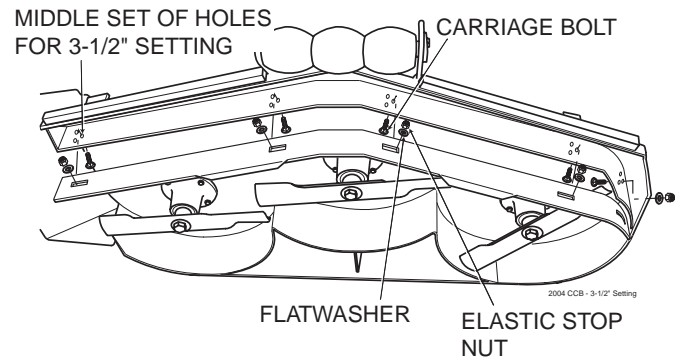

Figure 6-11. 3-1/2" Custom-Cut Baffle Position
- B. 3-1/2" Position - baffle is installed using the middle set of holes on the front baffle welded inside the cutter deck. (See Figure 6.11, Page 29). For general purpose cutting, place the Custom Cut Baffle in the 3-1/2" position. This gives the best mix of cutting performance in all types of grass.
4. Reinstall the mounting hardware as shown. (See Figures 6.11 though 6.12). Torque hardware to 39ft-lbs.